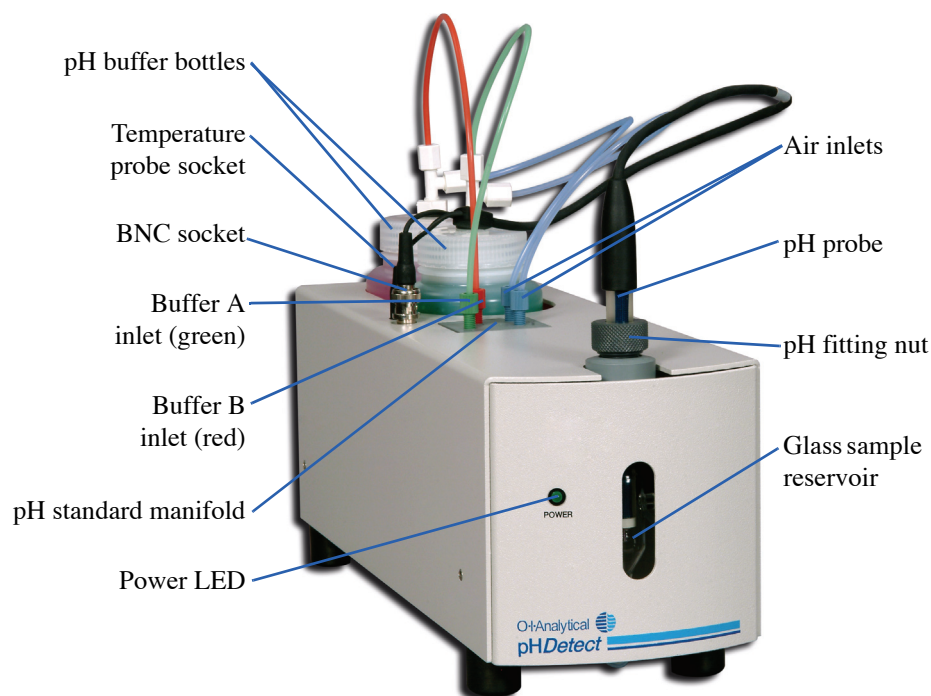

Figure 7.1. pHDetect module front view
10. Fill the pH buffer bottles (see Figure 7.1 for the location of the buffer bottles) with the appropriate buffer solutions as described below:
- b. Loosen and remove the pH fitting nut from the pH manifold cap (refer to Figure 7.1 for the pH manifold cap location).
- 12. Plug the pH probe's BNC connector into the BNC socket of the pHDetect located on the top of the unit (refer to Figure 7.1 for the BNC socket location).